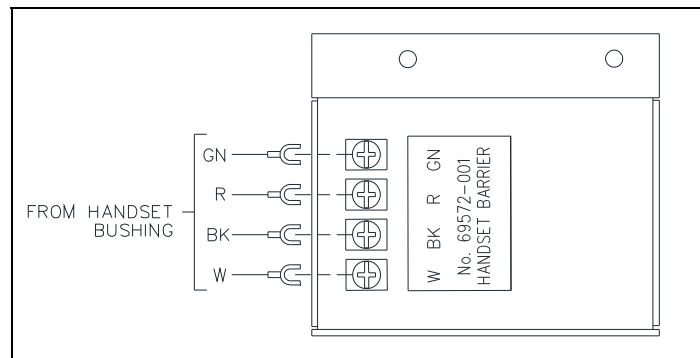

Figure 5. Handset Barrier Assembly
5. Insert each of the four color-coded wires into the handset barrier terminal block and tighten the terminal block screws to 12 in·lb (1.4 N·m) (see Figure 5).